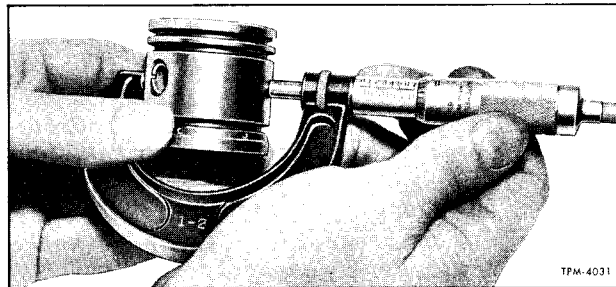

Figure 10—Measuring Piston Diameter
7. Pistons (Fig. 10). Examine pistons for scoring, cracks, or damage of any kind. Measure outside diameter of piston with a micrometer and compare this measurement with the inside diameter of cylinder bore. Clearance should not be less